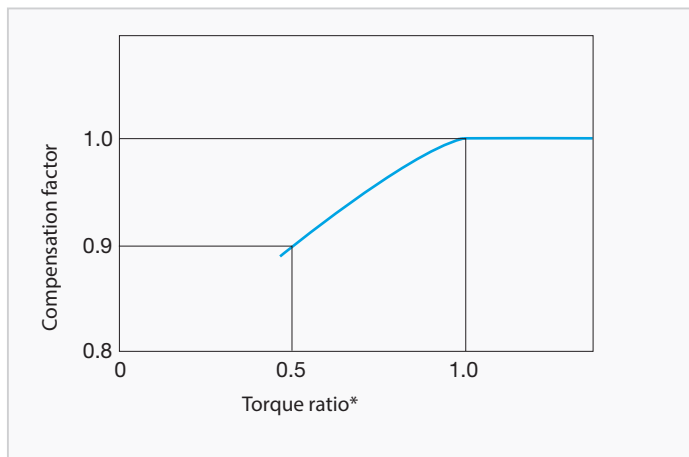

Fig. C-3 Compensation curve for efficiency
1. The efficiency changes if the load torque does not match the nominal torque. Check the compensation factor in the diagram Fig. C-3.
2. When the torque ratio is over 1.0, the compensation factor for efficiency is 1.0 (diagram Fig. C-3).